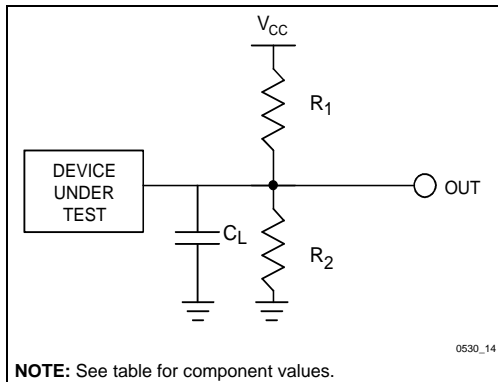

Figure 21. Test Configuration
5. See Test Configurations (Figure 21), 3.6V and 3.3 ± 0.3V Standard Test component values.
6. See Test Configurations (Figure 21), 5V Standard Test component values.
9. See Test Configurations (Figure 21), 3.6V and 3.3 ± 0.3V Standard Test component values.
10. See Test Configurations (Figure 21), 5V Standard Test component values.